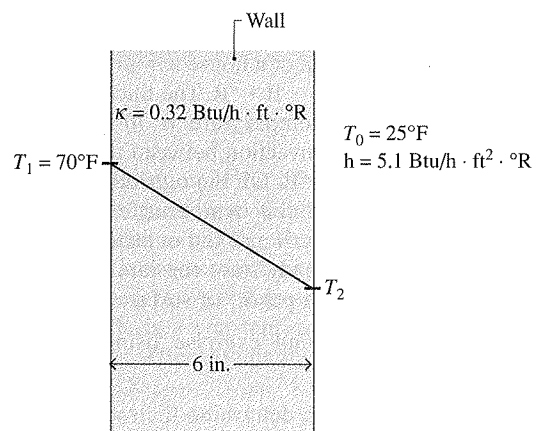

Fig. P2.47
- 2.47 As shown in Fig. P2.47, the 6-in.-thick exterior wall of a building has an average thermal conductivity of $0.32 \text{ Btu/h} \cdot \text{ft} \cdot ^\circ\text{R}$. At steady state, the temperature of the wall decreases linearly from $T_1 = 70^\circ\text{F}$ on the inner surface to T_2 on the outer surface. The outside ambient air temperature is $T_0 = 25^\circ\text{F}$ and the convective heat transfer coefficient is $5.1 \text{ Btu/h} \cdot \text{ft}^2 \cdot ^\circ\text{R}$. Determine (a) the temperature T_2 in $^\circ\text{F}$, and (b) the rate of heat transfer through the wall, in Btu/h per ft^2 of surface area.